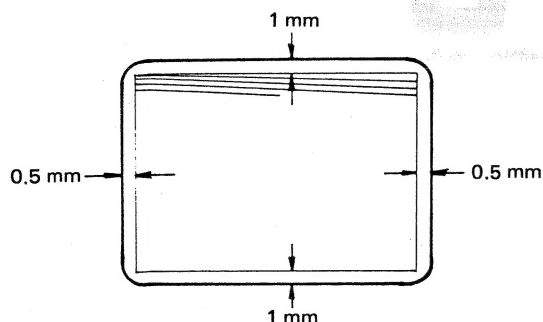

Fig. 2-1
4. Readjust the rotation of deflection yoke and centering magnet so that the picture is just scanned on the screen. Refer to Fig. 2-1.